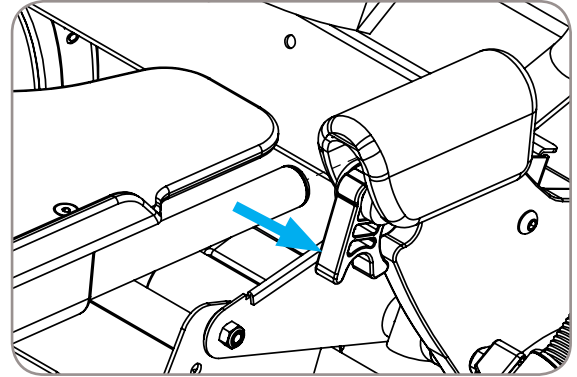

Figure 17
1. To install tray or grab bar, swing left and right cam locks downward. Reference Figure 17.